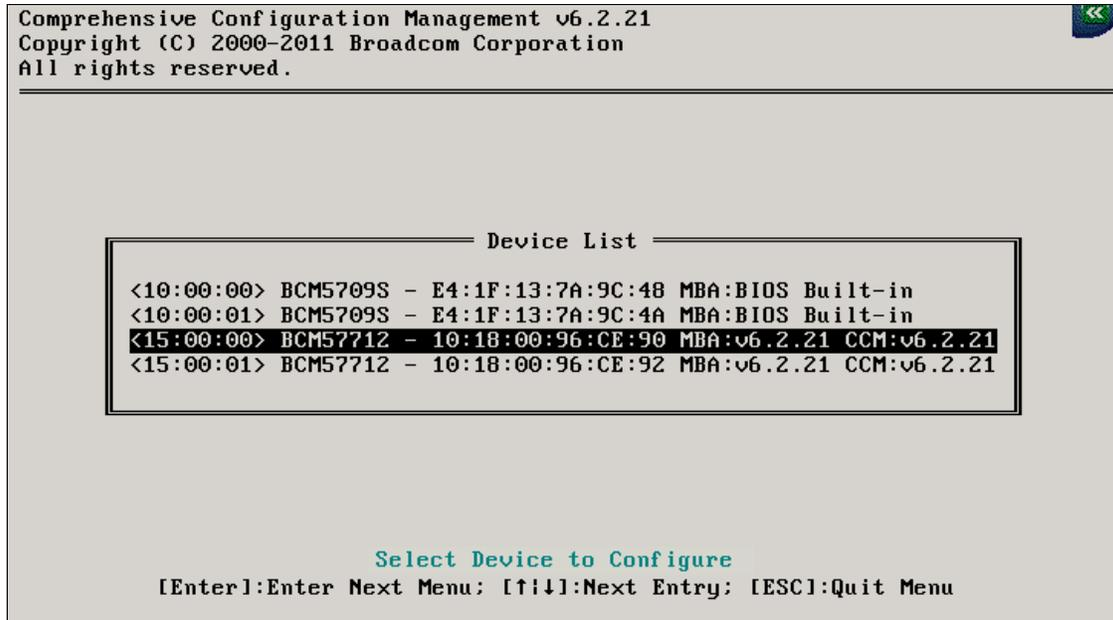

Figure 9-13 Device List panel
3. From the Device List panel (Figure 9-13), highlight the device of interest and press Enter.